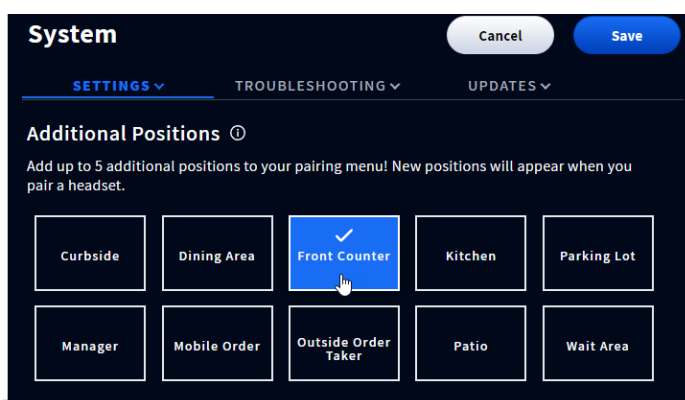

Fig. 5.3
**DNS:** Domain Name Server is a directory of domain names with translated Internet Protocol (IP) addresses. When the DNS switch is ON, the system automatically populates the required fields.
**Additional Positions:** This page gives you a range of positions to choose from that best suits the configuration of your store. You can choose up to five additional positions. Just tap/click on a position tile to select it. When finished, save your selection (the Save button only becomes active after selecting at least one position, see Fig. 5.3). This selection will then appear in the **Select your Positions** dialog box. See **Select your Positions** under “Getting Started with Pairing and Log In” on page 12.